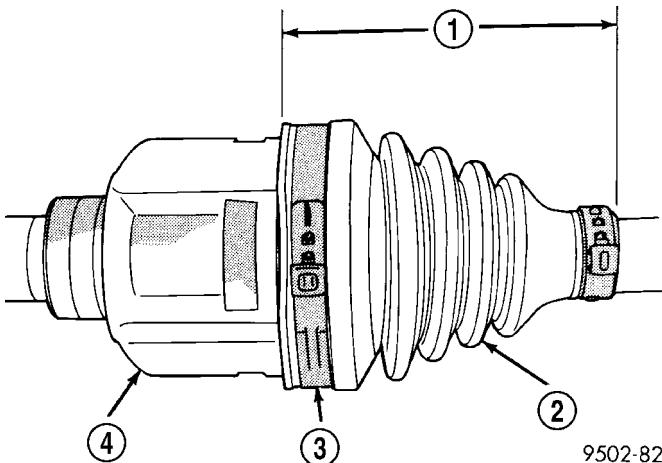
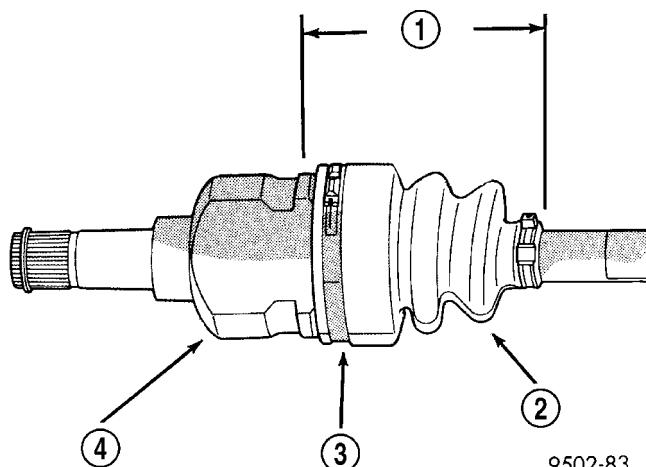

Fig. 40 Sealing Boot End to End Length with Hytrel Boot
Fig. 41 Sealing Boot End to End Length with Silicone Boot
(10) With trim stick inserted between sealing boot and tripod joint housing, position inner tripod joint on halfshaft until correct sealing boot edge to edge length is obtained for type of sealing boot material being used (Fig. 40) (Fig. 41). Then remove the trim stick.